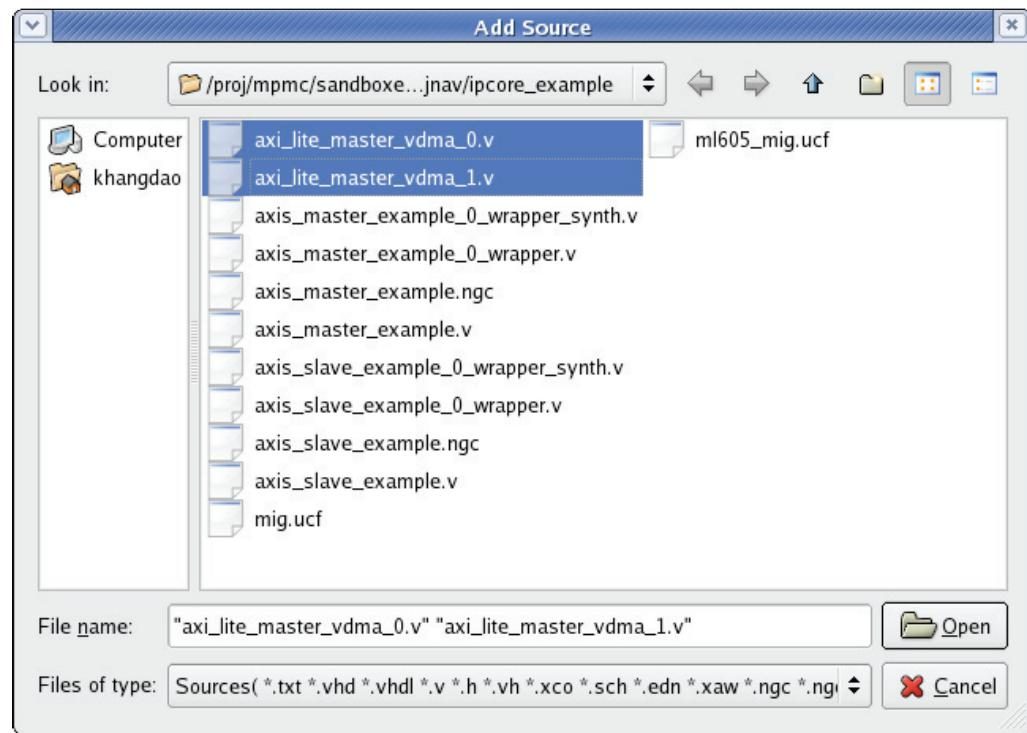

Figure 78: **Browser to Add source Files**
73. In the Add Source window (Figure 78), browse to the <user\_dir>/ipcore\_example/ directory and add the files `axi_lite_master_vdma_0.v` and `axi_lite_master_vdma_1.v`. Then click **Open**.